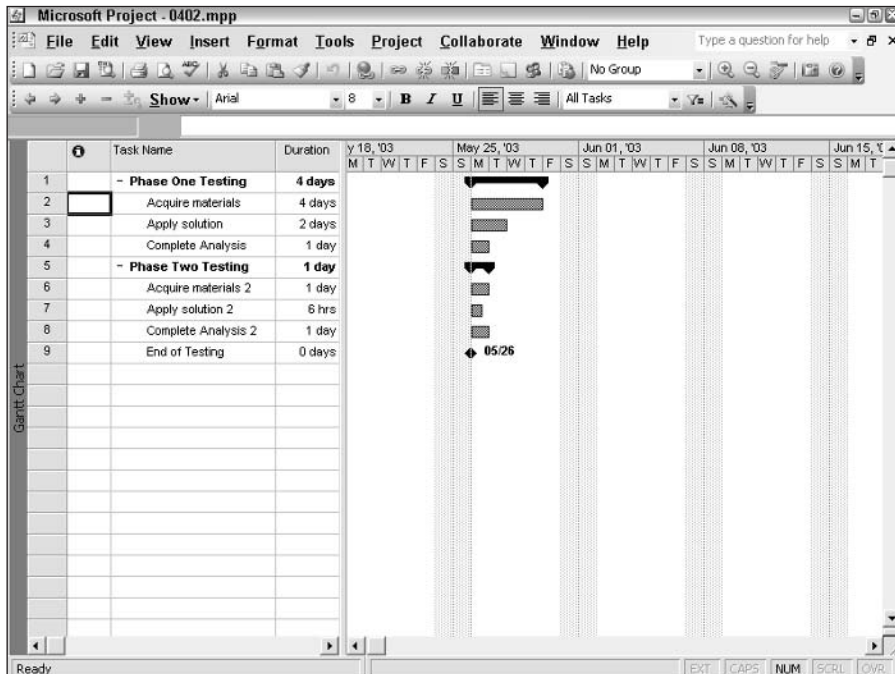

Figure 4-2: Task bars become more meaningful after you assign durations.
6. Click OK to establish the task duration. For example, the Gantt Chart task bars shown in Figure 4-2 reflect the new task lengths.